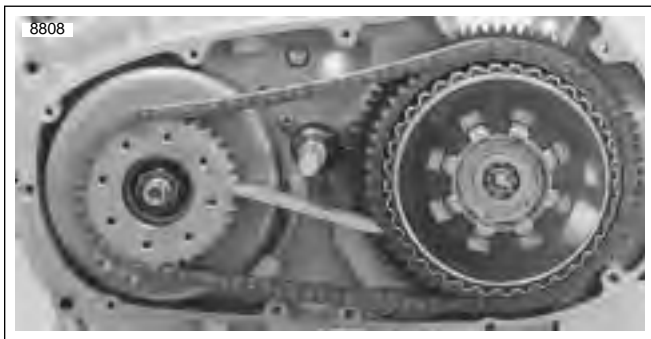

Figure 6-24. Sprocket Locking Link Tool
- a. See Figure 6-24. Install SPROCKET LOCKING LINK (Part No. HD-38362).